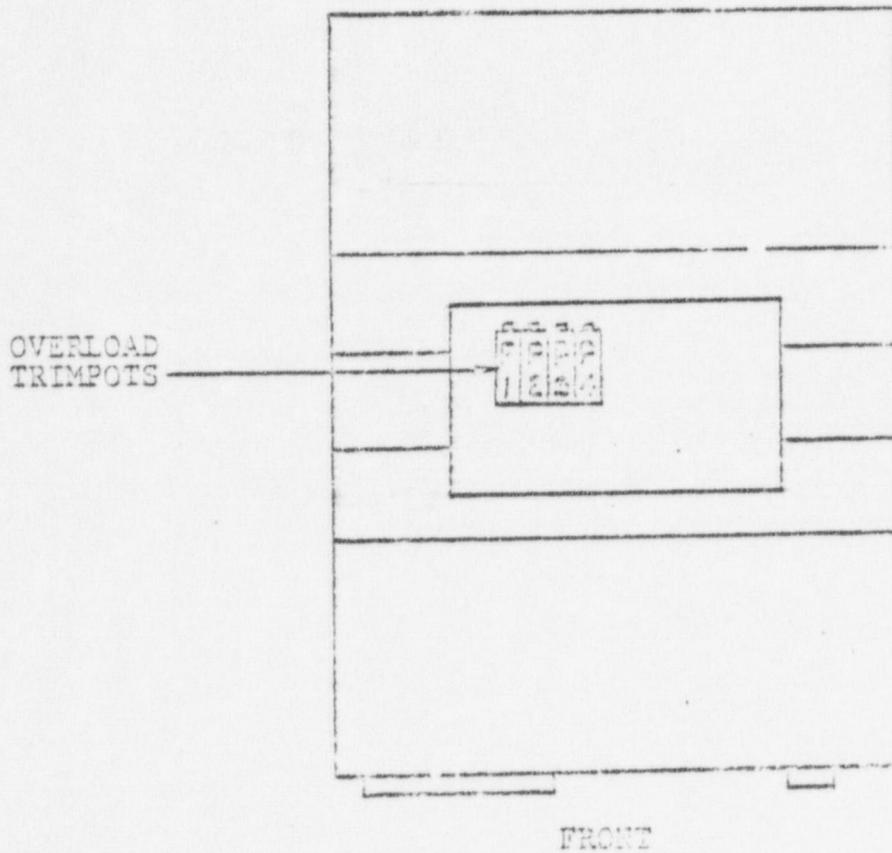

FIG. 15
- b) Apply a load of 1100 lbs in tension. Adjust the appropriate overload trimpot for the 1,100 lb. pin as specified in Fig. 15. The trimpots are located inside the BLH unit and their adjusting screws rotate clockwise to increase the shutoff limit and counterclockwise to decrease. Adjust until the light just goes out.